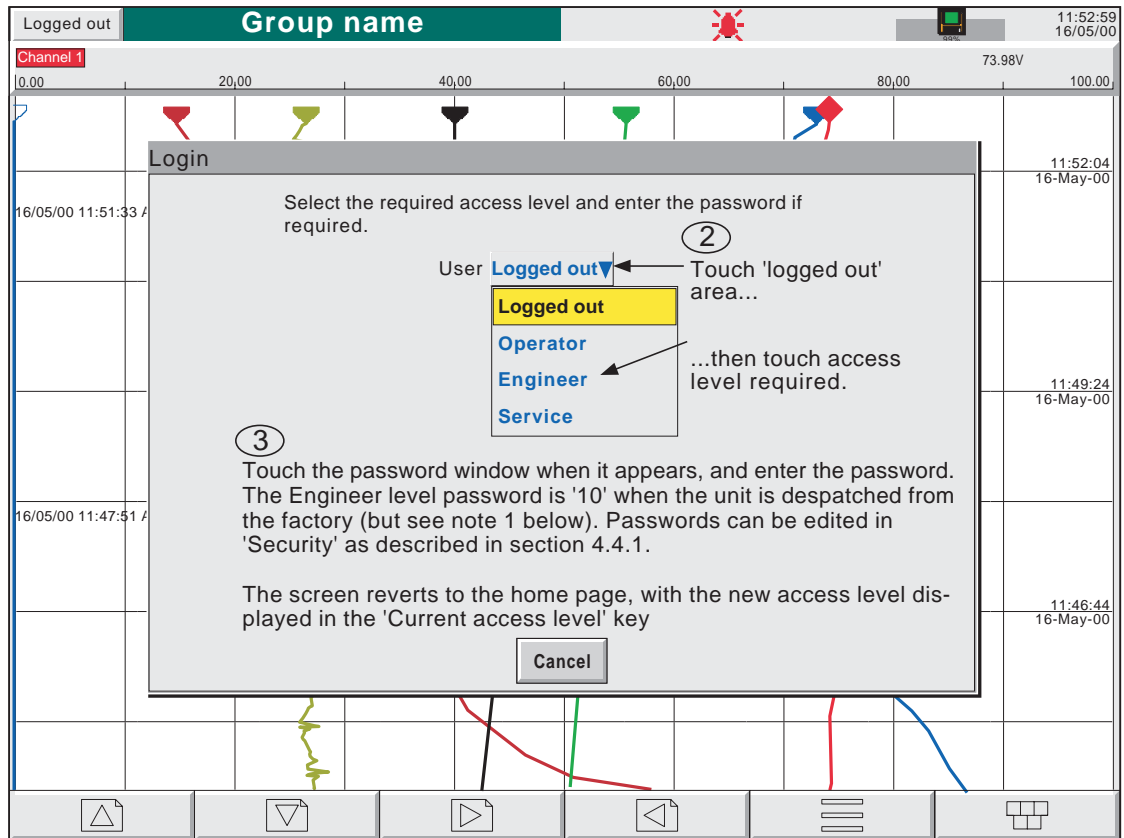

Figure 3.3.1a Access to configuration
- 1 As shown in figure 3.3.1a, once the recorder has initialised, touch the current access level key
2. Figure 3.3.1a shows 'Login by user list' which is the default method. If the Audit pack and/or Security management option is fitted, an alternative 'Login by user ID' procedure is possible. See section 4.4.2 \(Management\) for details.